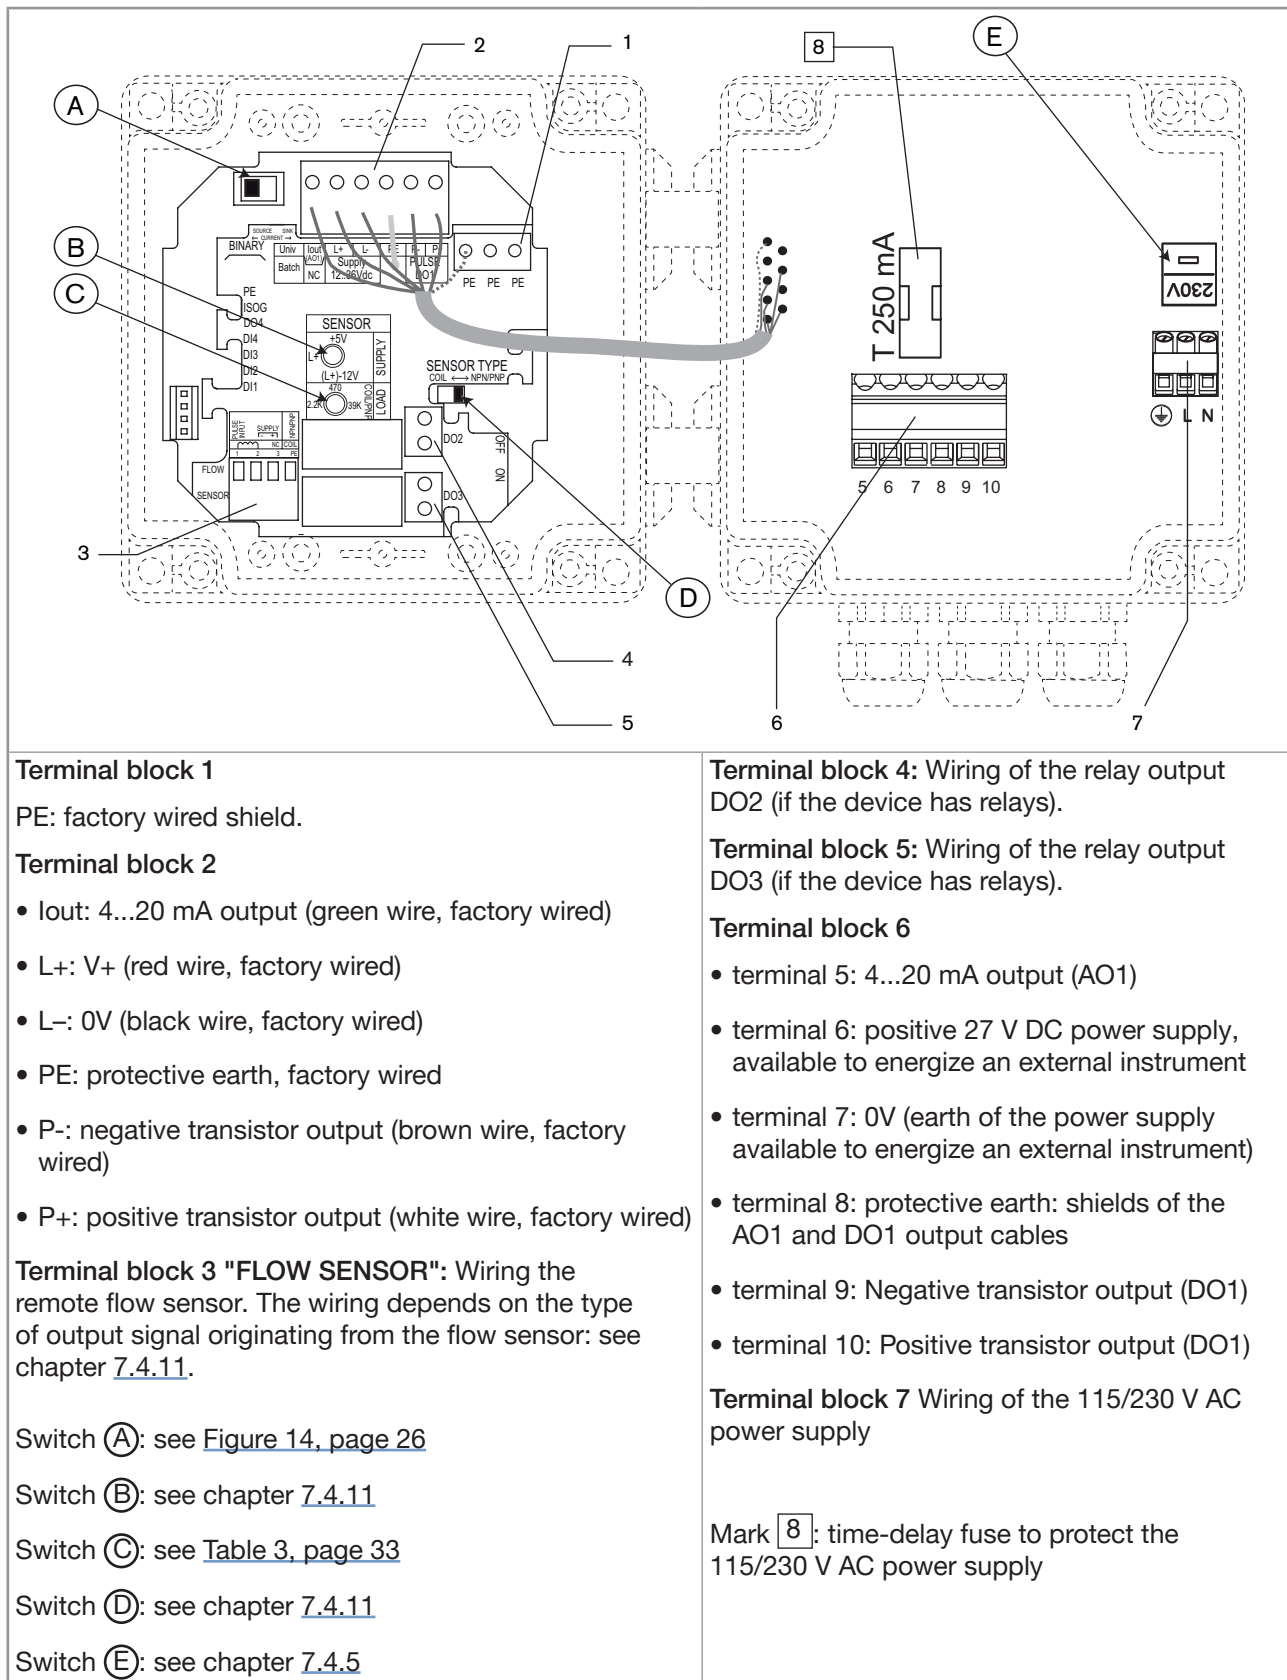

Figure 9: Terminal assignment of a wall-mounted version, 115/230 V AC
- Remove the two terminal blocks (marked 6 and 7 in Figure 9) from the housing.
- Insert the two terminal blocks (marked 6 and 7 in Figure 9) into their original position.